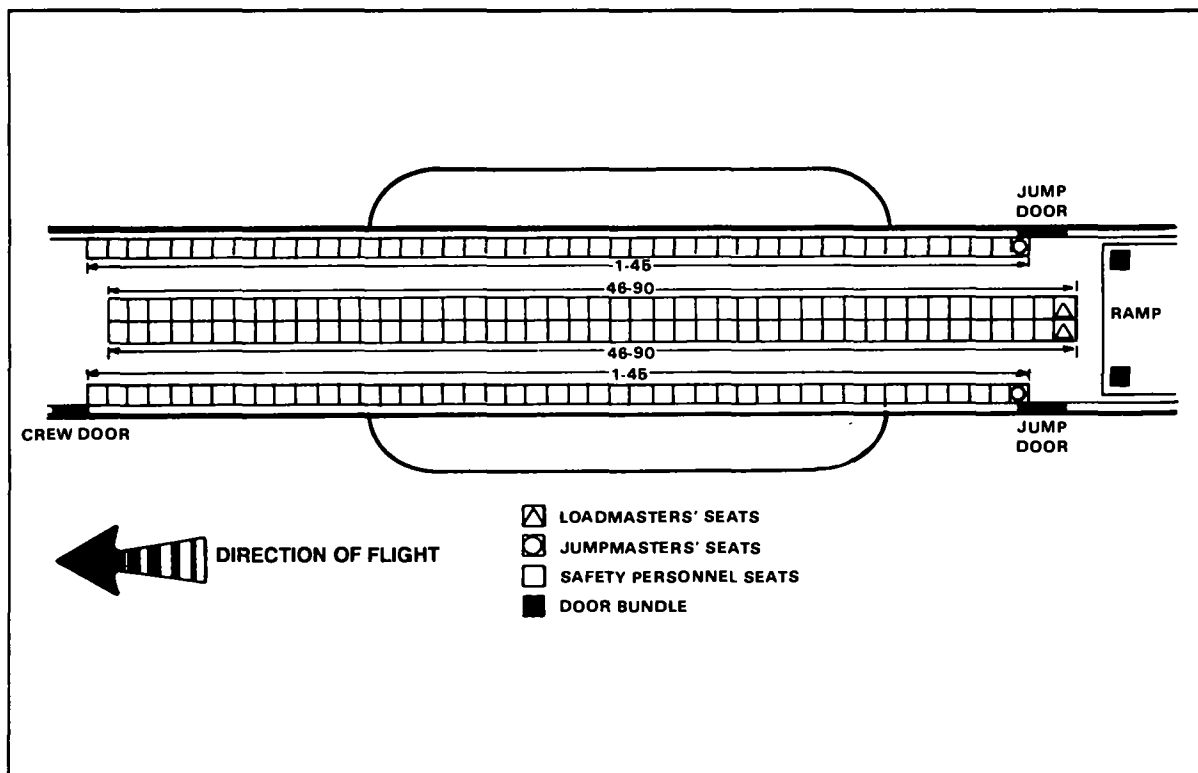

Figure 11-11. C141B configured for combat load (182 seats).
In this configuration, the C-141B seats 182 personnel: 180 parachutists and 2 loadmasters (Figure 11-11). Personnel are seated on the side facing seats on 20-inch centers. Parachutists (180) are seated in two sticks of 90 each on the left and right sides. If 45 parachutists cannot be seated on the outboard seats, overflow may be seated inboard aft on available center seats. The jumpmaster must ensure that only 45 parachutists hook up to the outboard/outboard anchor cables.